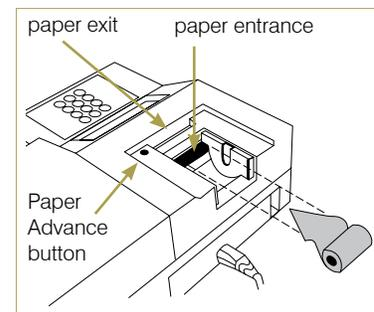

Figure B-9: Paper position and printer parts
4. Feed the paper from the bottom of the roll (Figure B-9).
5. Gently curl the tip of the paper and then insert the paper into the gap just below the case (Figure B-9).